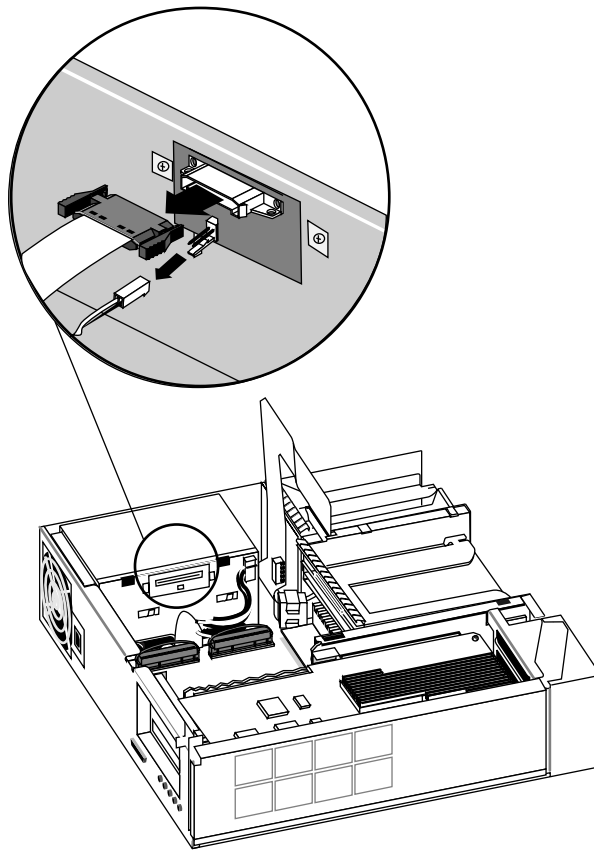

Figure 2-29 Disconnecting the Power Cables from Storage Site
6. Disconnect the power supply cables from their storage site on the power supply. See Figure 2-29.